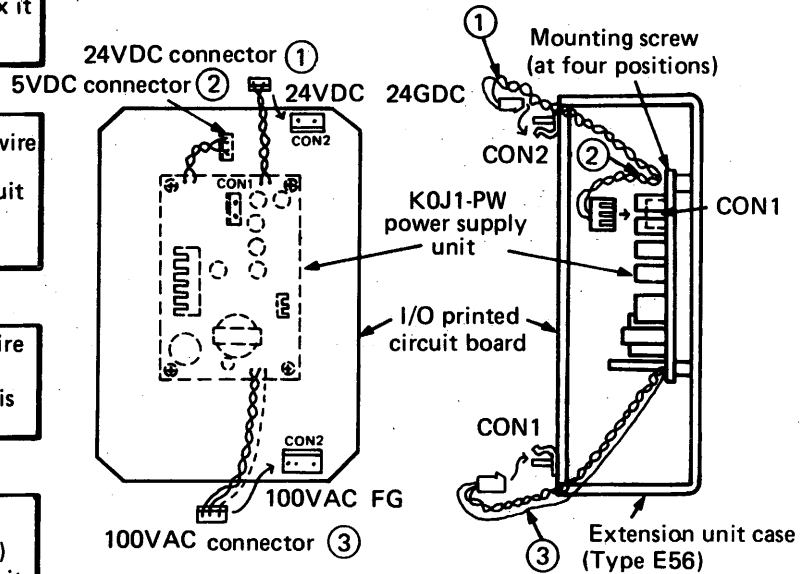

Fig. 5.14 Loading Procedure of Power Supply Unit to Type E56
Connect 24VDC connector with lead wire (Fig. 5.14 ①) to 24VDC/24GDC connector (CON2) of I/O printed circuit board so that red wire is located on 24VDC side.
Connect 5V DC connector with lead wire (Fig. 5.14 ②) to connector of power supply unit (CON1) so that blue wire is located on top side.
Connect 100VDC connector with lead wire to 100VAC/FG (Fig. 5.14 ③) connector (CON1) of I/O printed circuit board so that green wire is located on FG side.